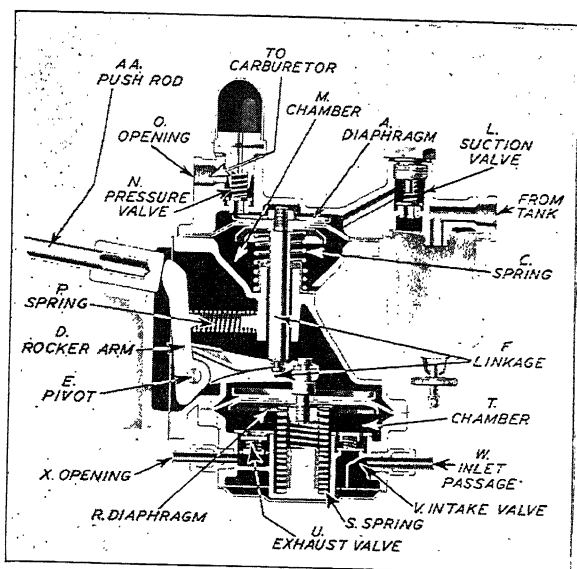

Fig. 9. Combination Fuel and Windshield Wiper Vacuum Pump
**Fuel Pump.** The type "T" AC combination fuel and vacuum pump is used on the 34-50 series and is mounted on the right side of the crank case, being driven directly by an eccentric on the crank-shaft through a push rod AA, Fig. 9, supported in bosses in the crank case. If necessary to remove the push rod, first remove the cover plate. In doing work on this type of equipment, cleanliness and good tools are prime essentials.
**Gasoline Pump.** The operation of the gasoline pump unit is as follows. The rotation of the eccentric on the camshaft actuates the rocker arm *D*, Fig. 9, (through an operating rod on 34-60 and 34-90 series) pivoted at *E* which pulls the linkage *F* and in turn the diaphragm *A* downward. The downward movement of the diaphragm *A* creates a vacuum in the chamber *M* which draws fuel through the suction valve *L* in the outlet of the fuel filter. On the return stroke of the rocker arm *D*, the spring *C* moves the diaphragm *A* upward, forcing fuel from the chamber *M* through the pressure valve *N* and opening *O* to the carburetor. When the carburetor bowl is filled, the carburetor float closes the inlet needle valve which
**Windshield Wiper Vacuum Pump.** The operation of the vacuum pump unit is as follows. The rotation of the camshaft eccentric operates the rocker arm *D*, Fig. 9, pivoted at *E*, which pushes the link *F* and in turn the diaphragm *R* downward, expelling the air in chamber *T* through the exhaust valve *U* and opening *X* to the intake manifold. On the return stroke of the rocker arm *D* the spring *S* moves the diaphragm *R* upward, creating a suction in the chamber *T*, opening intake valve *V*, drawing air through inlet passage *W* from the windshield wiper. When the windshield wiper is not being used, the manifold vacuum holds the diaphragm *R*